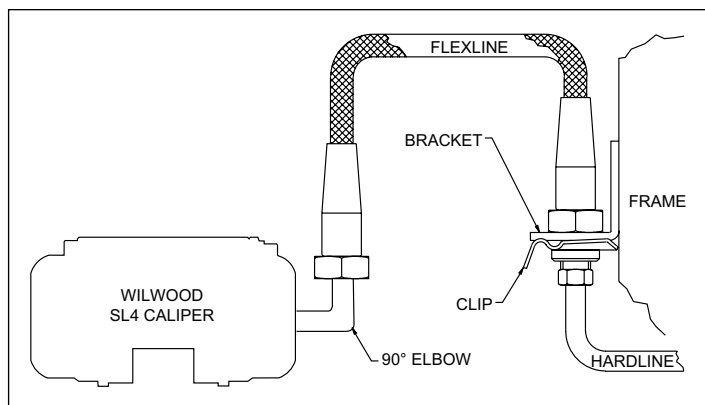

Figure 4. Brake Line Diagram
- Remove the caliper center bridge pad retainer bolt, nut, and tube from the caliper. Insert the brake pads (12) into the caliper, with the friction material facing the rotor, as shown in Photo 4. Check that the top of the brake pad is flush with the outside diameter of the rotor, Photo 5. If not, adjust by adding or subtracting shims (11) between the caliper and the bracket. After the caliper pad height is set, reinstall the center bridge pad retainer tube, bolt, and lock nut. The lock nut should be snug without play in the bolt or tube. Be cautious not to over tighten. Torque the caliper lock nuts (8) to 30 ft-lb.
- **NOTE: The caliper in this brake kit utilizes a 1/8-27 NPT pipe thread inlet** (use PTFE tape on pipe threads of adapter fitting for proper sealing to caliper). *OEM rubber brake hoses generally cannot be adapted to Wilwood calipers.* Wilwood offers a brake flex line hose kit to fit this application, order P/N 220-8177 for C5, or 220-9101 for C6 (NOT included in kit), see Figure 4. Hose kit includes hoses, fittings, etc., all in one package for this application. **Carefully route hoses to prevent contact with moving suspension, brake or wheel components.** **NOTE: Wilwood hose kits are designed for use in many different vehicle applications and it is the installer's responsibility to properly route and ensure adequate clearance and retention for brake hose components.**